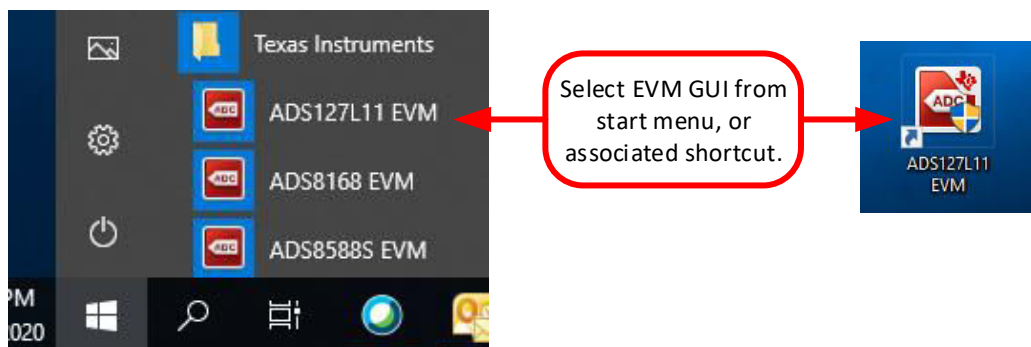

Figure 6-2. Launch the EVM GUI Software
3. Start the software GUI as shown in Figure 6-2. You will notice that the LEDs blink slowly as the FPGA firmware is loaded on the PHI. This loading takes a few seconds then the AVDD and DVDD power supplies will turn on.